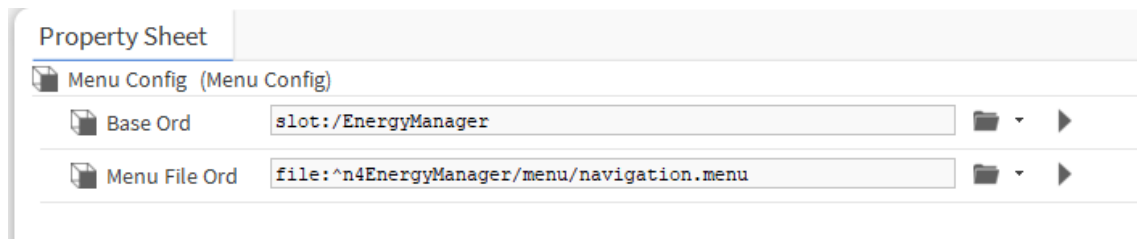

Figure 141 - EXAMPLE MENU CONFIG COMPONENT
The data configuration is different from the other menu Widgets. Instead of specifying the .menu file directly in the widget settings, the user need to select a Menu Config Component instead (see Figure 141).
2. Configuring Menu Config Component (see Figure 141):